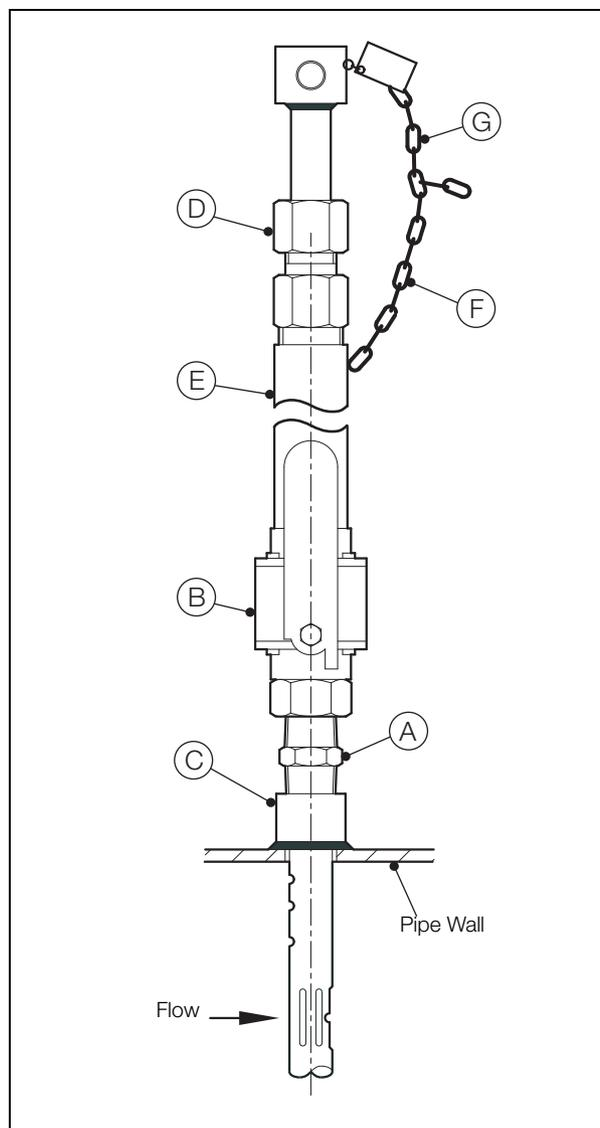

Fig. 2.10 Installation of Threaded Models FPD350.L6.E1 and FPD350.L7.E1
5. Referring to Fig. 2.10:
- a. Apply suitable sealant to the close nipple (A) and isolation valve (B) and fit them to the threaded fitting (C). Tighten securely.
- b. Attach hot-tap drilling equipment to isolation valve (B) in accordance with the manufacturer's instructions.
- d. Withdraw the drill, close isolation valve (B) fully and remove the hot-tap drilling equipment.
- e. Ensure packing material is in place in packing gland (D).
- f. Fit pressure chamber (E), complete with packing gland (D), to isolation valve (B), using appropriate sealants where necessary.
- g. Insert the Torbar into packing gland (D) and tighten the packing gland until it is fully sealed, ensuring the Torbar is able to slide through it.
- h. Ensure safety chain (F) is securely attached to pressure chamber (E).
- i. Attach chain link (G) to safety chain (F), ensuring the safety chain is tight.
- j. Carefully open isolation valve (B) and check for leaks around packing gland (D).